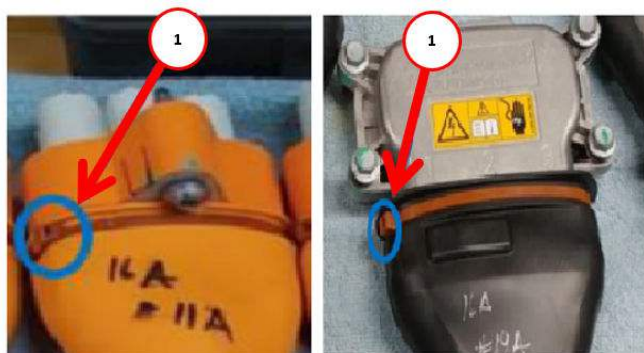

Fig. 7
14. Reattach the rubber sleeve and secure it within 15 minutes of applying the sealing compound and tighten the plastic cable tie using the HellermannTyton EVO7 tool to 225 N·m (166 Ft. Lbs.). Repeat the same process for the other end connector of the HV cable harness Fig. 7.